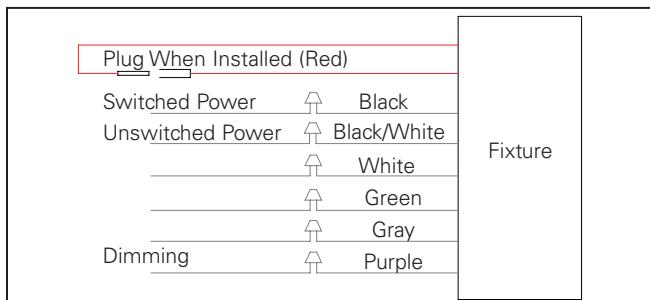

Figure 4B. Emergency Battery Pack
2. Make wire connections per Figure 4B.